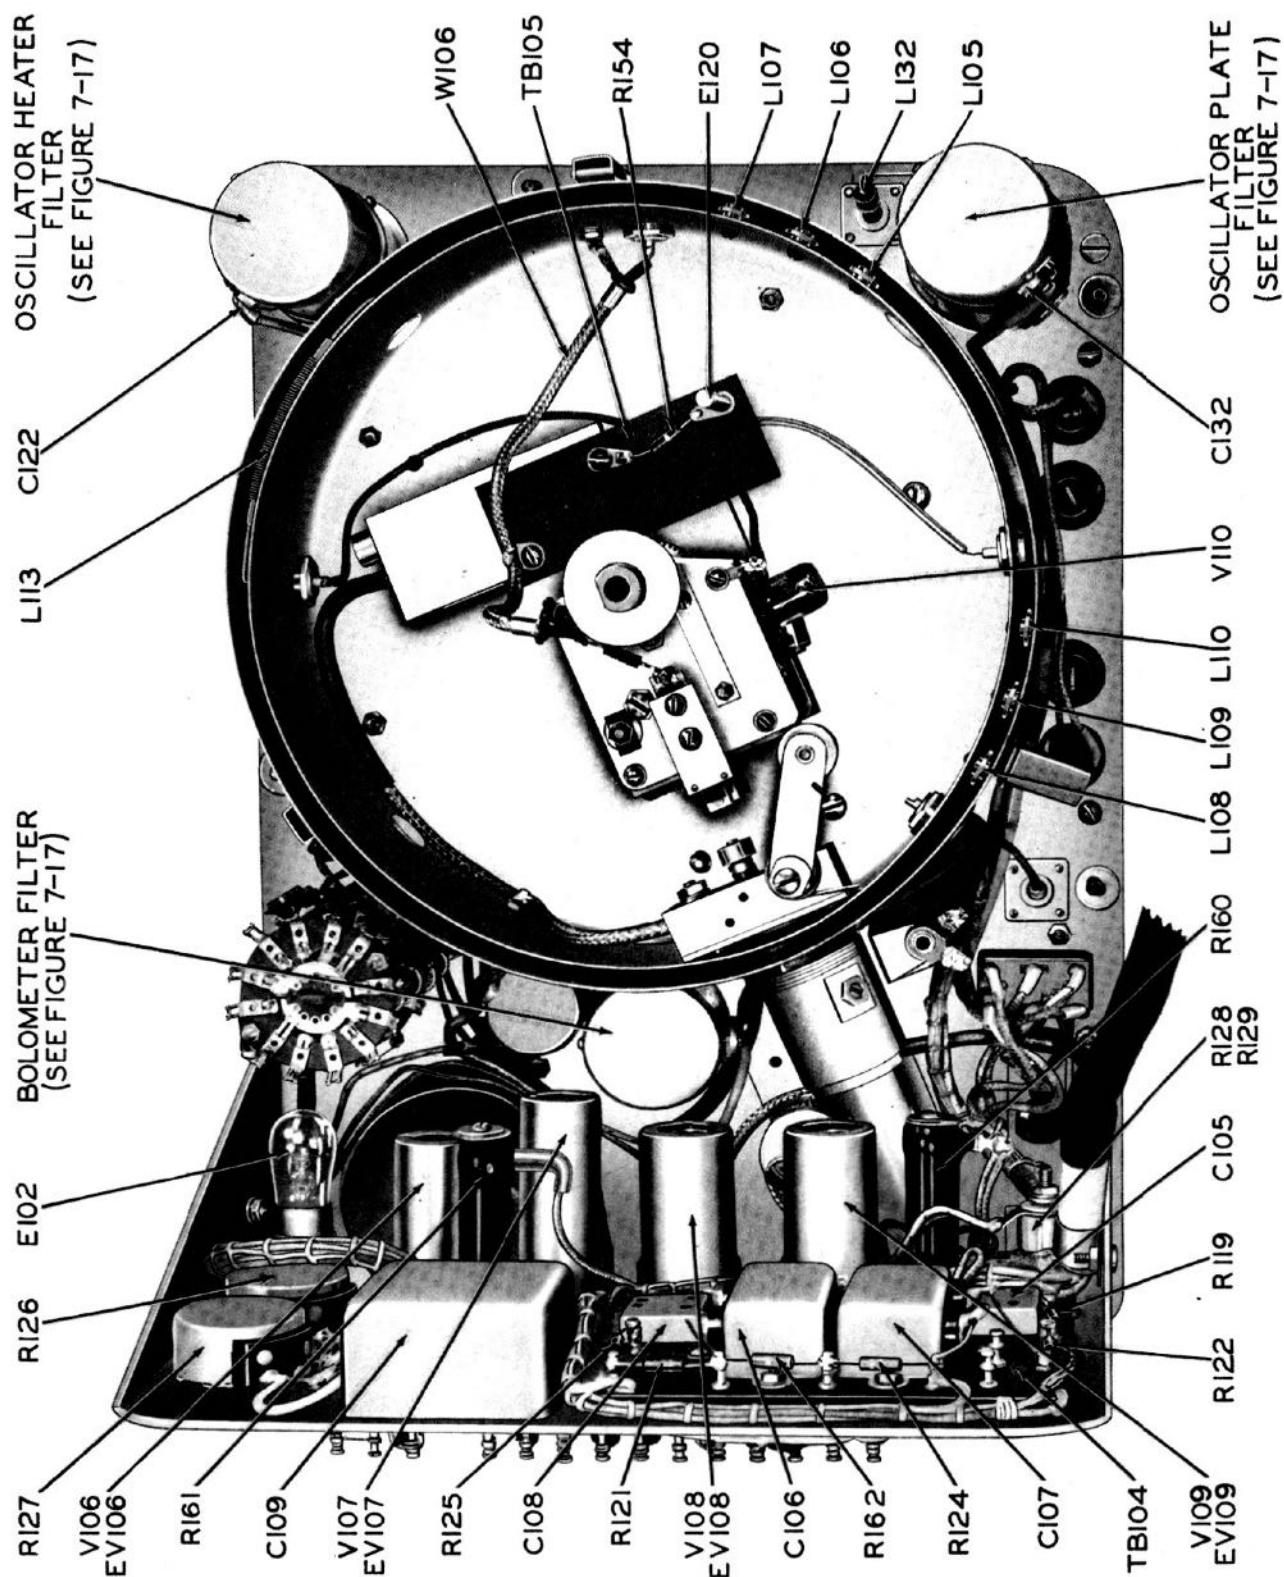

Figure 7-3. RF Signal Generator SG-45A/URM-26, Rear View
c. TEST POINTS: Voltage and resistance data are shown in Figures 7-1 and 7-2. Locations of circuit components are shown in figures 7-3, 7-4, 7-5, and 7-6.
c. Connect an accurate dc voltmeter, such as Multimeter AN/PSM-4, and an ac vacuum tube voltmeter, such as Multimeter ME-25A/U, between ground and capacitor C-132, see figure 7-3.
(1) Voltage between C-132 and ground should be approximately 150 volts dc. If necessary readjust plate voltage in manner described in paragraph 2 of this section.